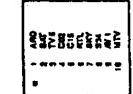
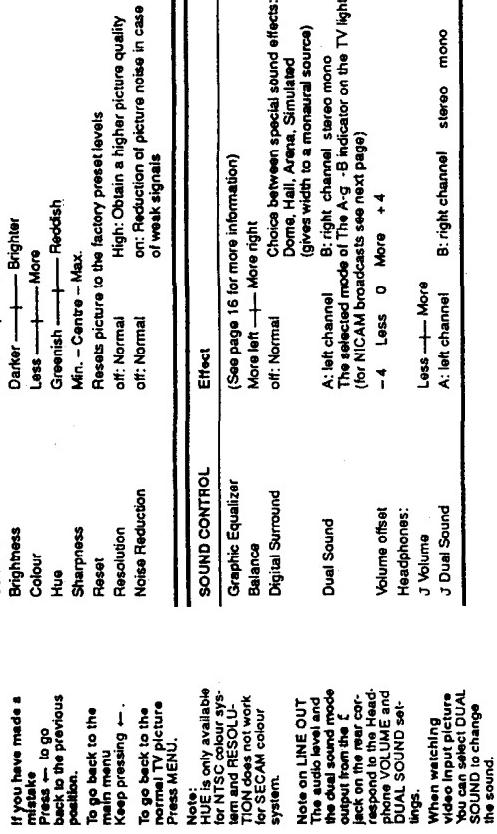

Fig. 29.
Fig. 30.
Press OK. A Programme Table will be displayed on the right side of the TV screen (See Fig. 29.)
- Press MENU and select "Picture Control" or "Sound Control", then press OK. The PICTURE CONTROL or SOUND CONTROL menu appears. (See Fig. 29 or Fig. 30.)